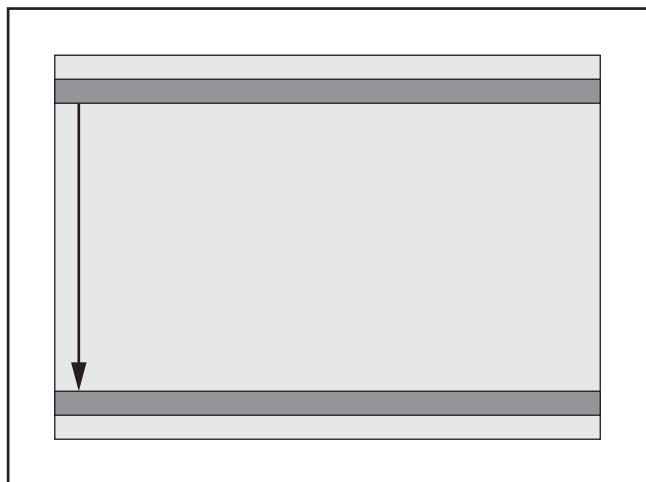

Figure 29. Example of rolling outside to outside line.
1. From starting point, roll workpiece from outside line on one side to outside line on opposite side (see **Figure 29**).